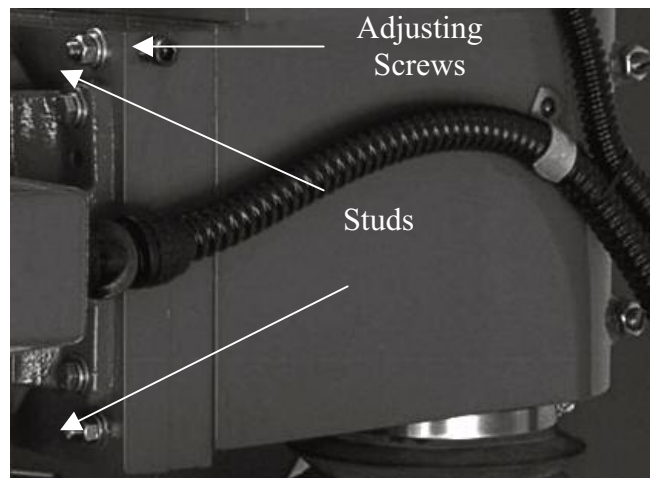

Figure 32
- b. Loosen adjusting screw on same side of machine as corresponds to the low side of the grinding wheel. Tighten screw on opposite side to pivot adjusting plate appropriate amount (Figure 32).